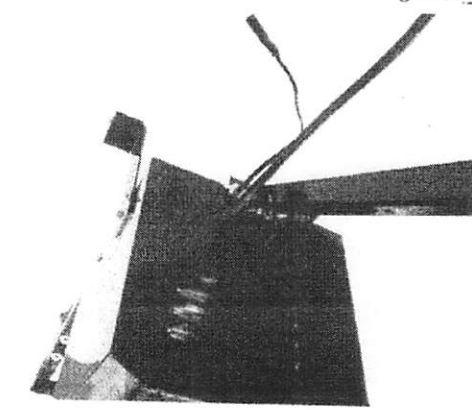

Figure 4
8. Once the battery has been installed, the handle needs to be bolted into place. Use the two 3/8" x 2" bolts in the horizontal holes and the one 3/8" x 1" bolt for the single vertical hole (See Figure 4).